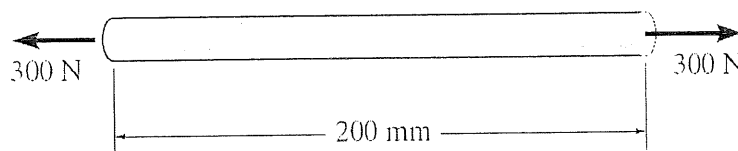

Figure 2
- b) The acrylic plastic rod is 200 mm long and 15 mm in diameter shown in Figure 2. If axial load 300 N is applied to it, given it modulus of elasticity,  $E_p$  is 2.7 GPa, and Poisson ratio,  $\nu$  is 0.4. **Compute**